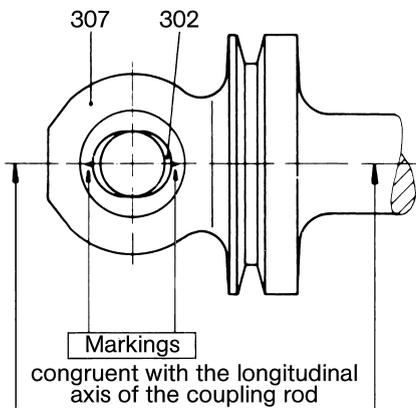

Figure 7: Inserting the coupling rod bush
- Drive the guide bushes (303) halfway into the rotor (401) and the hollow shaft (125) using a tapered brass drift.
- Press the coupling rod bush (302) into the coupling rod (307) so that the longitudinal axis of the oval hole (marked with two notches) coincides with the longitudinal axis of the coupling rod, and the coupling rod bush extends from the coupling rod symmetrically on both sides (not required for AEB1E 50 / AEB2E 50 / AEB1N 25 / AEB2N 25 / AEDB1E 75 / AEDB2N 38 / AEB1L 99 / AEB4H 12) (see Figure 7).